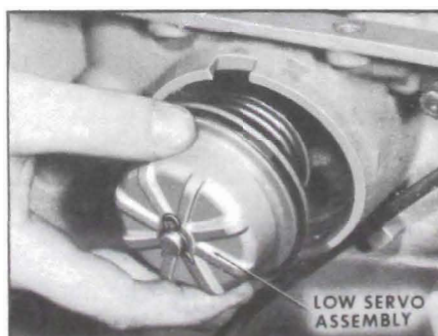

Figure 5-310
1. Install low servo piston assembly into case. See Figure 5-310.